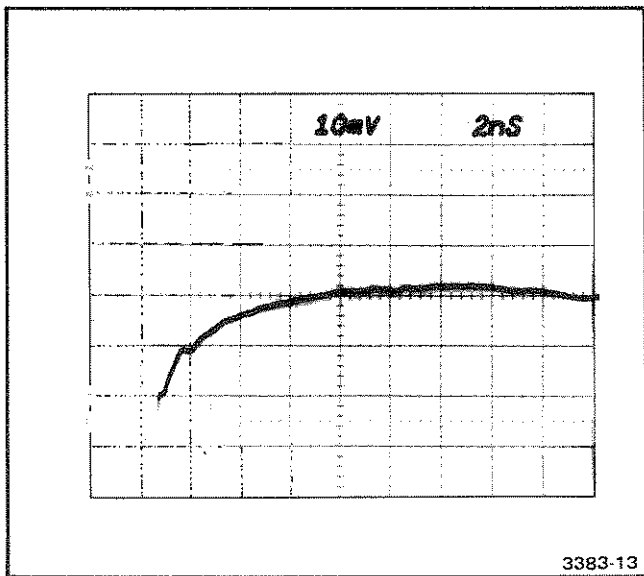

Fig. 4-3. Typical sampling oscilloscope response display.
g. CHECK—that the aberrations are within 2% (1 div). Refer to Fig. 4-3.